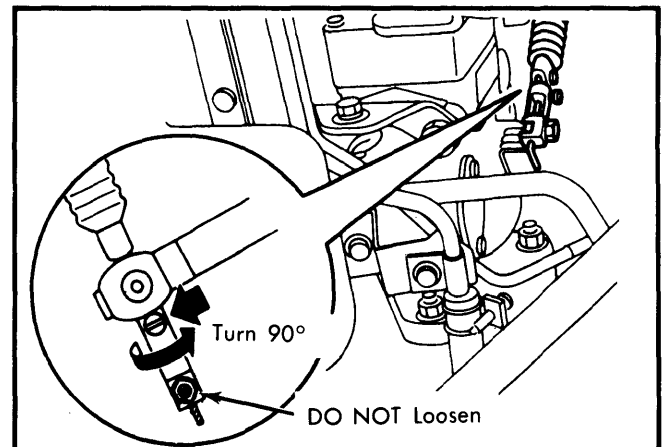

Fig. 9 Injection Pump Cold Start Device
1) With No. 1 cylinder at TDC on the compression stroke, remove fuel injection tubes and loosen fork screw on cold start device. Turn fork 90° and set device in the free position. See Fig. 9.